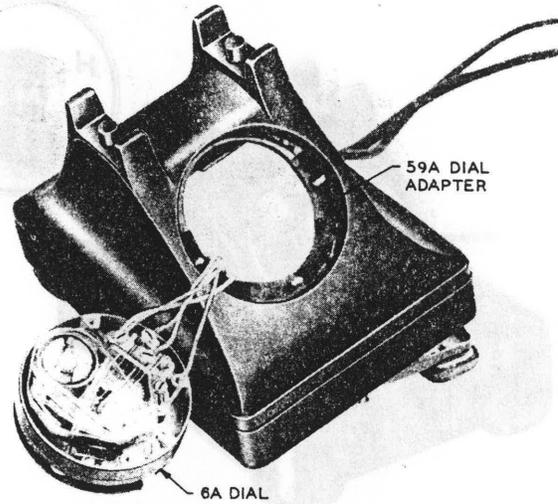
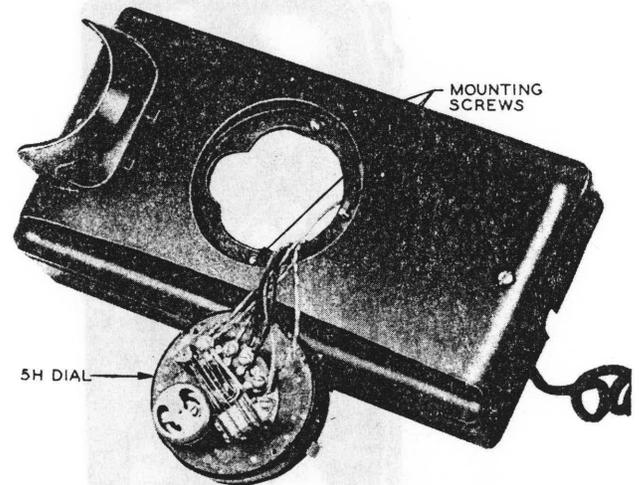

Fig. 11 - Dial Assembly, 302G Telephone Set
Fig. 12 - Dial Assembly, 354C Telephone Set
3.04 The assembly of a 6A dial with a 59A adapter in the 302G telephone set is shown in Fig. 11. Fig. 12 shows the assembly of a 5H dial in the 354C telephone set.